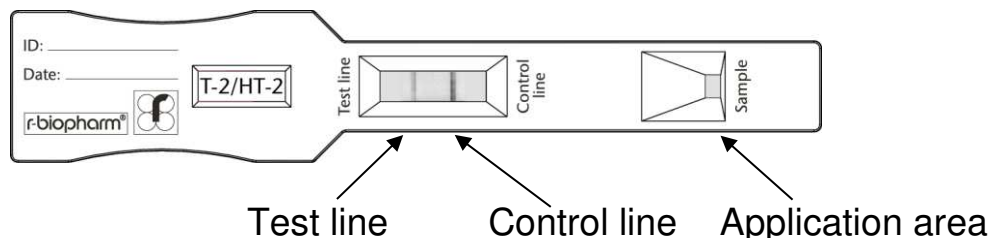

Fig. 1: RIDA®QUICK T-2 / HT-2 RQS ECO test strip.
- Apply 100 µL of the sample solution (see section 8. Sample preparation) on the application area of the test strip (see Fig. 1).
The left line in the reaction area is the test band (test line, see fig. 1). Its appearance and intensity depends on the T-2 / HT-2 toxin concentration of the sample. The sample is contaminated with T-2 / HT-2 toxin, if the control band (control line) is visible and the test band (test line) is also visible.